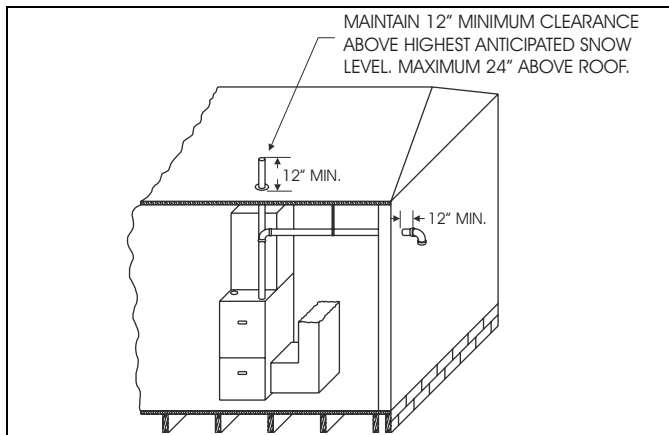
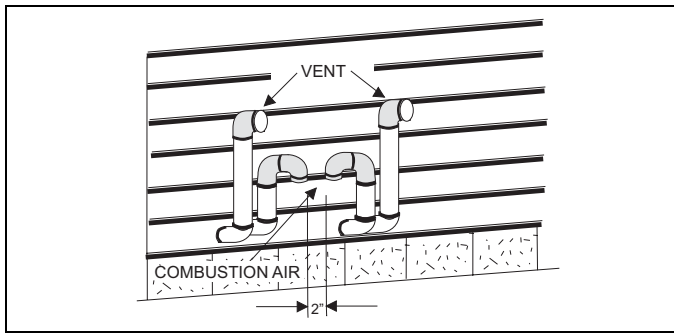
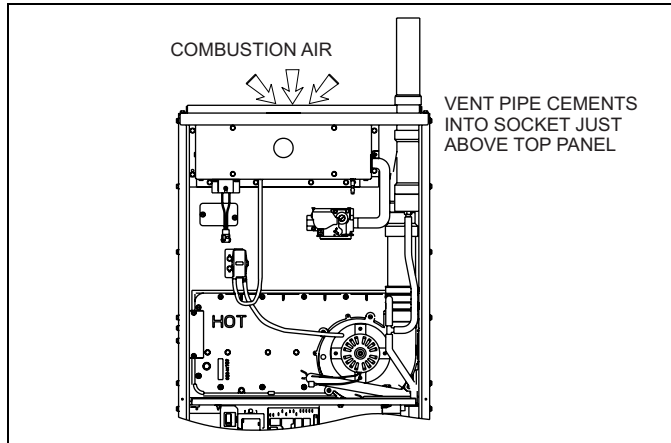

FIGURE 13: Termination Configuration - 1 Pipe
FIGURE 16: Double Horizontal Sealed Combustion Air and Vent Termination
FIGURE 20: Combustion Airflow Path Through The Furnace Casing to the Burner Box
The combustion air side of the single pipe configuration shown in Figure 20 is referred to in these instructions as ambient combustion air supply. Follow the instructions for ambient combustion air installations, paying particular attention to the section on air source from inside the building. The vent for a single pipe system must be installed as specified in the venting section of these instructions with the vent terminating as shown in Figures 16 or 17. Each furnace must have a separate vent pipe. Under NO circumstances can the two vent pipe be tied together.
2. **AMBIENT COMBUSTION AIR:** Combustion air is supplied from the area surrounding the furnace through vents or knockouts in the furnace casing. The combustion air and the vent pipes are not terminated in the same atmospheric zone. Refer to Figure 13 for vent terminations. Refer to "AIR SOURCE FROM INSIDE THE BUILDING" and "VENT AND SUPPLY AIR SAFETY CHECK" for proper installation. Refer to Figure 20.
This type installation will draw the air required for combustion from within the space surrounding the appliance and from areas or rooms adjacent to the space surrounding the appliance. This may be from within the space in a non-confined location or it may be brought into the furnace area from outdoors through permanent openings or ducts. It is not piped directly into the burner box. A single, properly sized pipe from the furnace vent connector to the outdoors must be provided. For upflow models combustion air is brought into the furnace through the unit top panel opening. Do not install a pipe into the intake collar on top of the burner box. Refer to Figure 20.